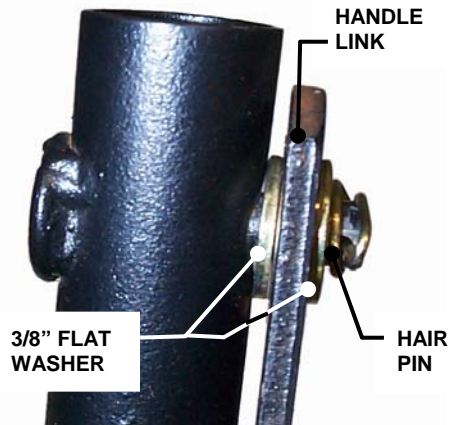

FIGURE 1.9
- C. Insert stud into center hole of right Handle Link. Add another 3/8" flat washer over stud and secure with hair pin. See Figure 1.9.